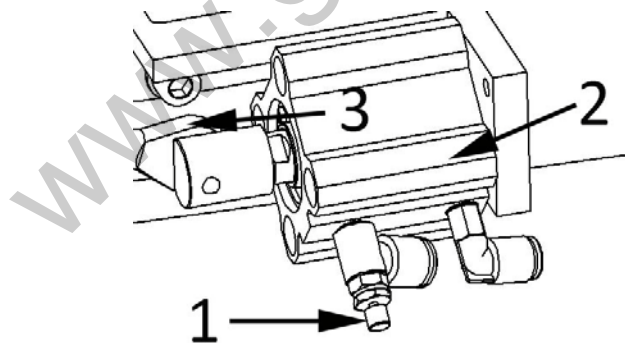

Fig. 28
Increasing or decreasing of the speed of knife is done by the valve (1) on the pneumatic cylinder (2) which is placed on the side of the base plate. The rod is connected with pneumatic cylinder by hinge bearing (3), Fig. 28.